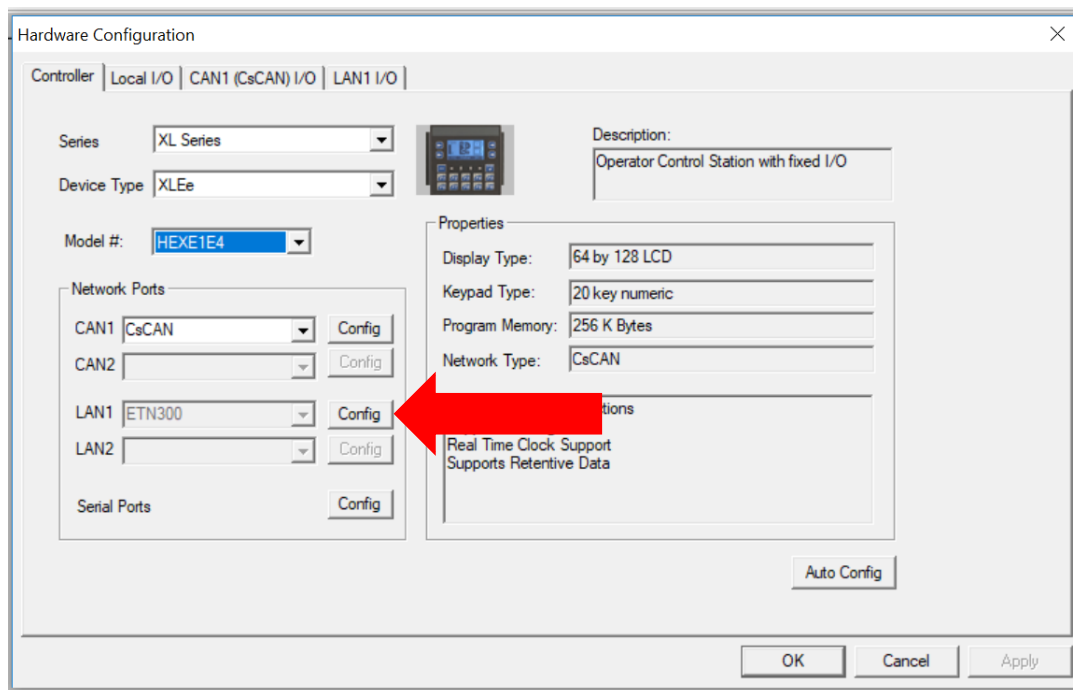

Figure 8.1 - Hardware Configuration Dialog
1. On the main Cscape screen, select the **Controller** menu and its **Hardware Configuration** sub-menu to open the Hardware Configuration dialog (Figure 8.1).